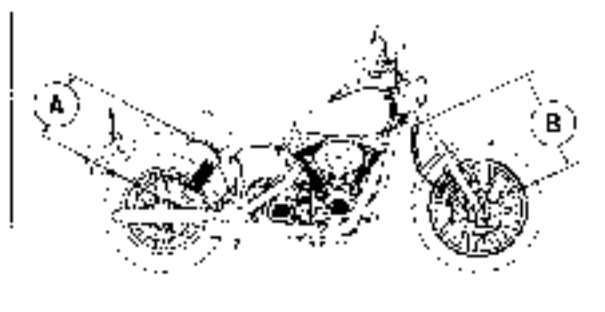

Figure 1-42. Preload Adjustment
2. See Figure 1-42. With the motorcycle unladen, take the following measurements: